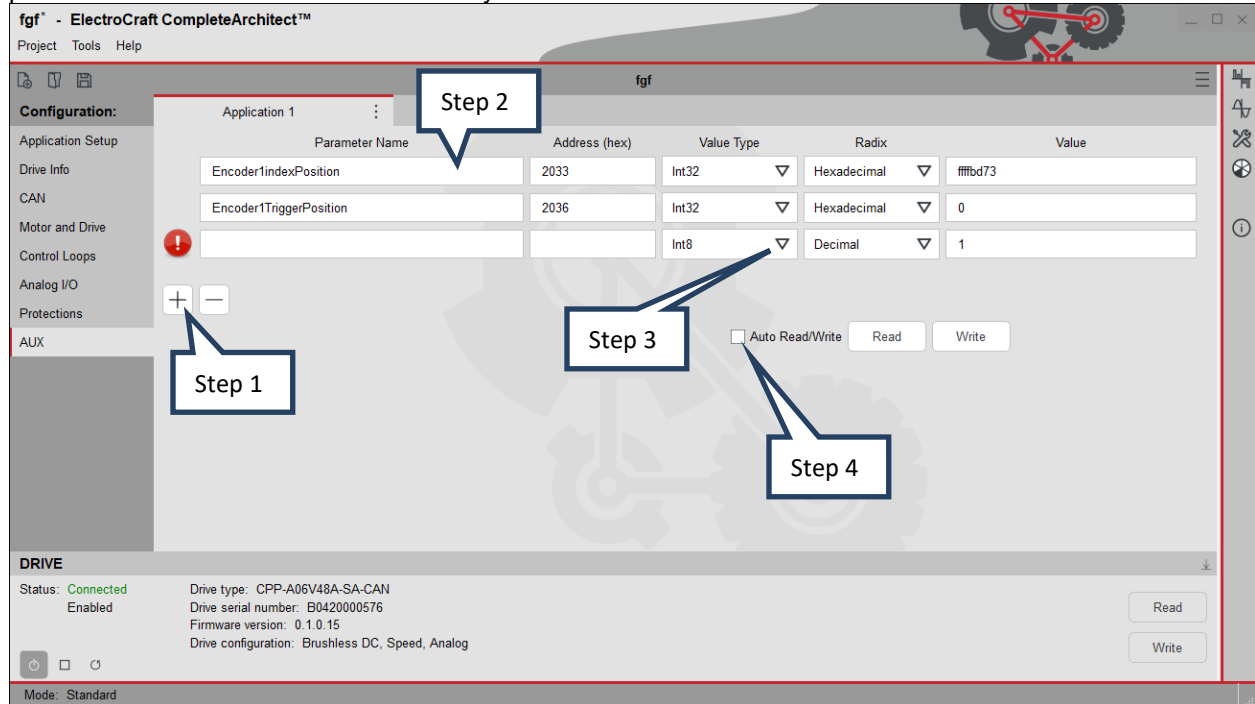

Figure 51: Adding Parameter
Step 1: Select  icon to open “Add Monitoring Parameter” window as shown in Figure 51. Multiple parameters can be added simultaneously.